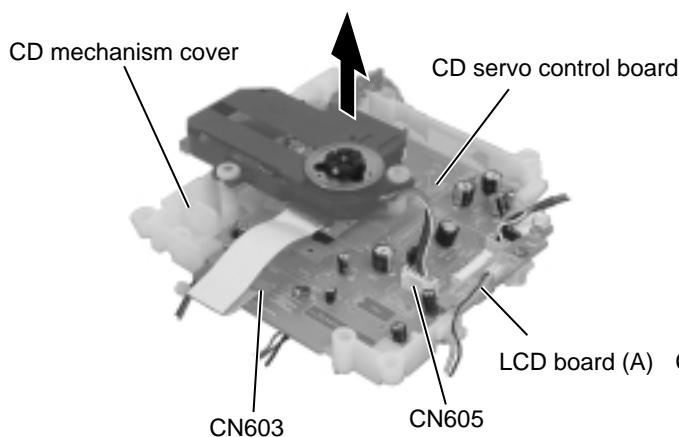

Fig.21
### ■ Removing the LED board (A) (See Fig.21)
- Remove the screw O attaching the LED board (A).